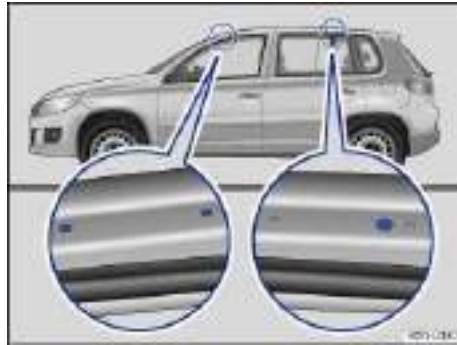
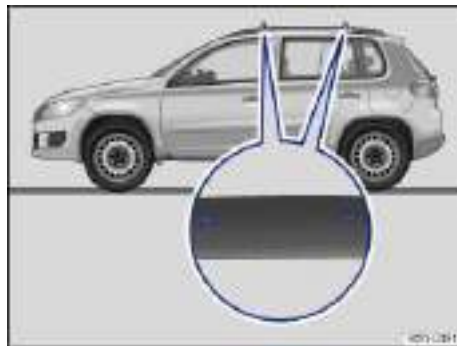

Fig. 107 Vehicles without roof railing: Attachment points for the base carrier and roof rack.
Fig. 108 Vehicles with roof railing: Attachment points for the base carrier and roof rack.
⇒ fig. 107.
The attachment holes are on the inside of the roof railing ⇒ fig. 108 (magnified view).
- Mount the roof rack base carrier only at the markings shown in the illustration ⇒ fig. 107 or ⇒ fig. 108.